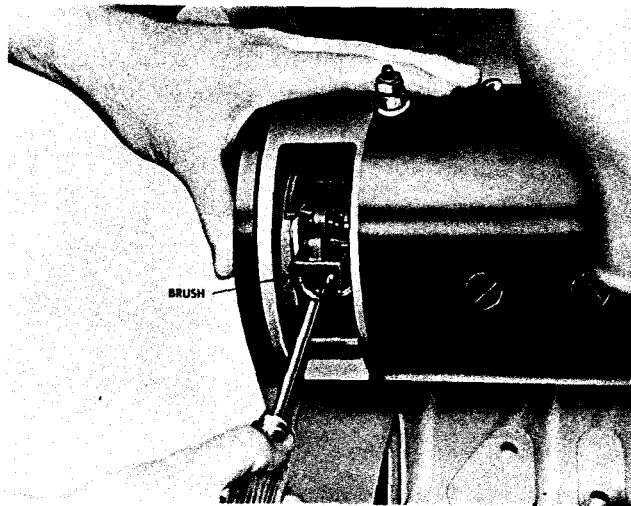

Fig. 5-44. Checking generator brushes
2. Replace worn brushes. If brushes wear rapidly, check for incorrect brush spring tension or high mica on the commutator. Check out-put and action of an ammeter indicator after brush replacement. Fig. 5-44.